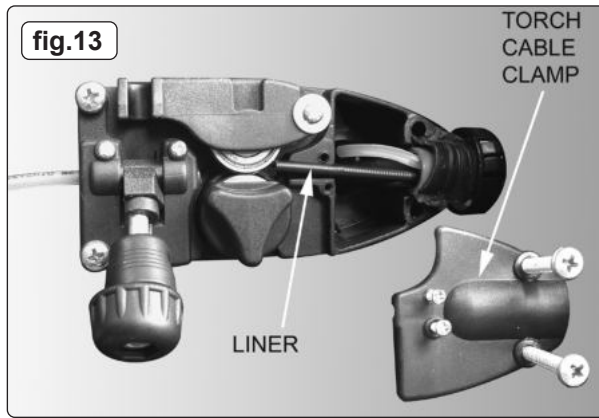
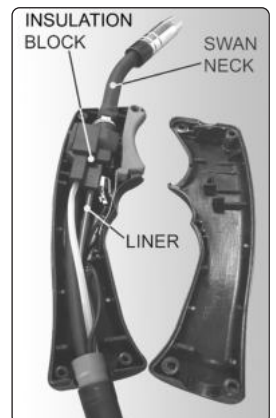

fig.13
fig.14
- 6.6.1. A worn or damaged wire liner will seriously affect the performance of the welder and should be immediately replaced. First wind the wire back onto the spool and secure it. Remove the four screws securing the torch cable clamp to the wire feed unit (fig.13) and take off the clamp. Undo the torch case (fig.14) and pull the wire liner from the insulation block. Pull out the liner from the torch cable and insert the new one. Reverse the process to re-assemble. Ensure the liner is fully inserted into the torch insulation block and reassemble the torch. Trim the other end of the liner as close to the feed roller as possible. Replace the torch cable clamp.